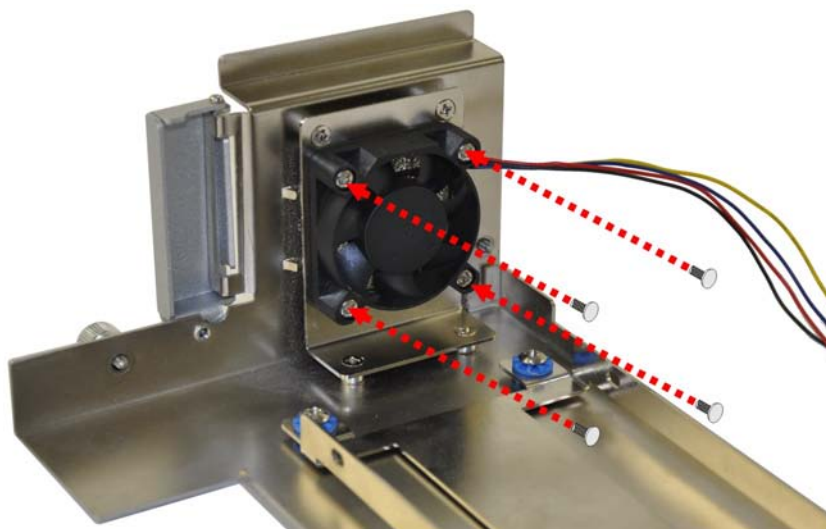

Figure 3-7: System Fan Installation
- Step 3:** Attach the system fan to the TANK-860-HM86 Series and secure it by four retention screws (**Figure 3-7**).